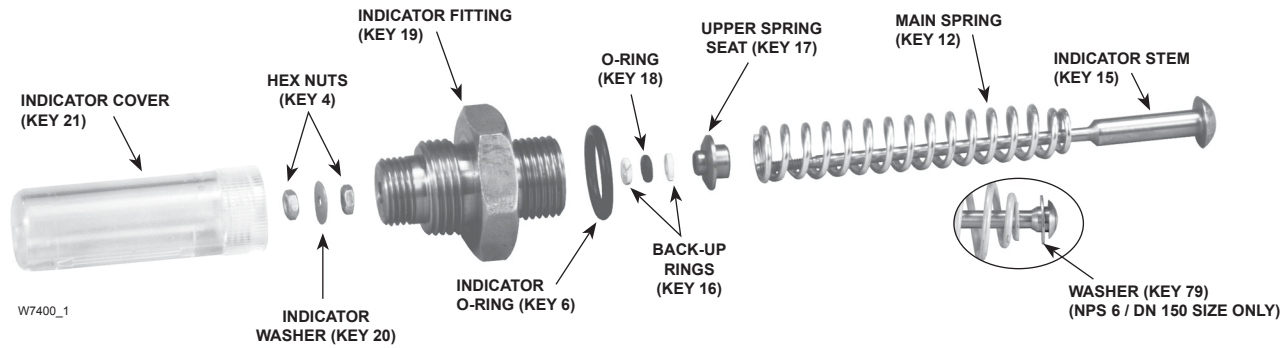

Figure 8. Travel Indicator Parts
Travel indicator assembly key numbers are referenced in Figures 8, 9 and 13. The indicator assembly can be removed and installed without removing the bonnet (key 2) from the body (key 1). Travel indicator maintenance is performed for two reasons: